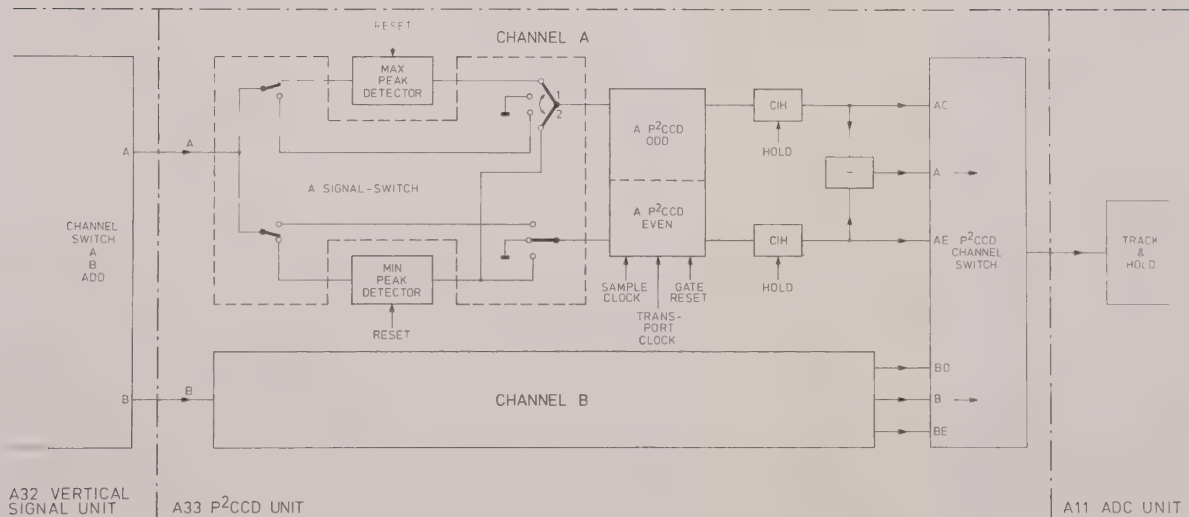

Figure 8.33.8 ROLL + DIRECT mode
8.33.3.3 P²CCD mode (200 us/div ...- 200 ns/div) Single + Dual channel (see figure 8.33.8)
After all samples are converted, a new sweep of samples is taken with high sample and transport frequency and converted with the low transport frequency. This time the samples are taken of a zero voltage level (see dashed signal switch position in figure 8.33.8). Afterwards the DPU subtracts these zero voltage samples from the corresponding signal samples to perform digital leakage correction.
In these modes the signals from the channel switch are applied to the peak detectors, called resp. MAX peak detector and MIN peak detector (see figure 8.33.8).